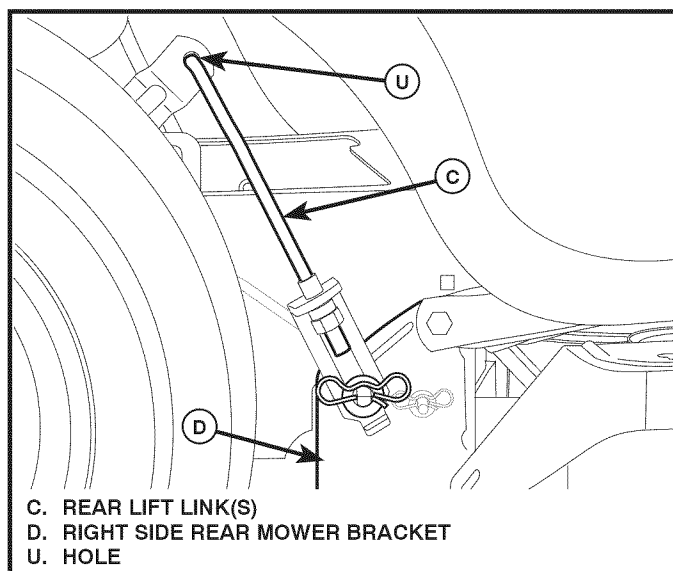

Fig. 33
7. ATTACH REAR LIFT LINKS (C) (See Fig. 33)
- Insert rod end of rear lift link (C) into hole (U) in tractor lift shaft suspension arm and pivot link down to mower.
- Lift rear corner of mower and position slot in link assembly over pin on rear mower bracket (D) and secure with large washer and large retainer spring.